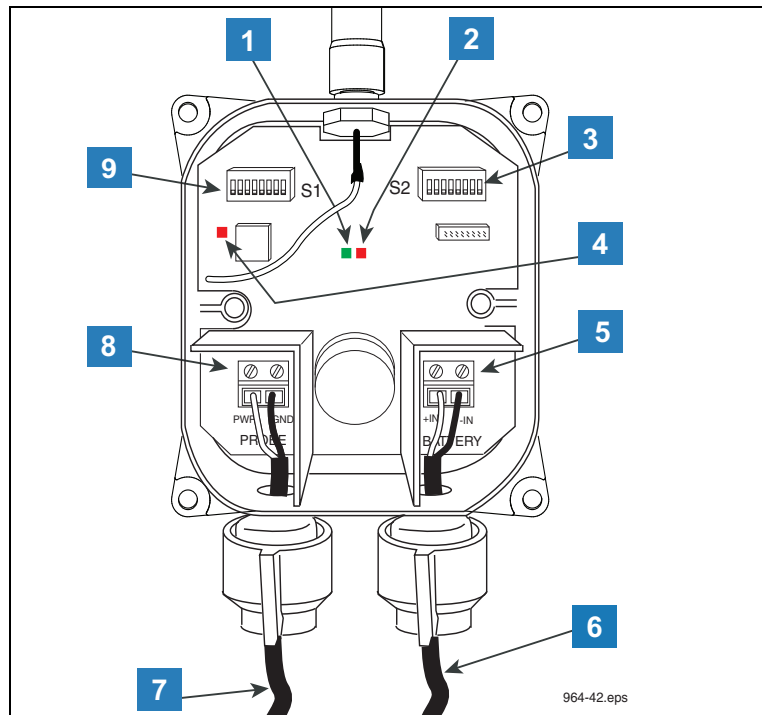

Figure 30. Wiring the Transmitter
5. All probe/sensor cables connect to the PROBE terminal block the SAME WAY - the white wire to the PWR terminal and the black wire to the GND terminal as shown in Figure 30.
8. Connect power cable wires to the BATTERY terminal block placing the white wire in the +IN terminal and the black wire in the -IN terminal as shown in Figure 30.
LEGEND FOR NUMBERED BOXES IN Figure 30